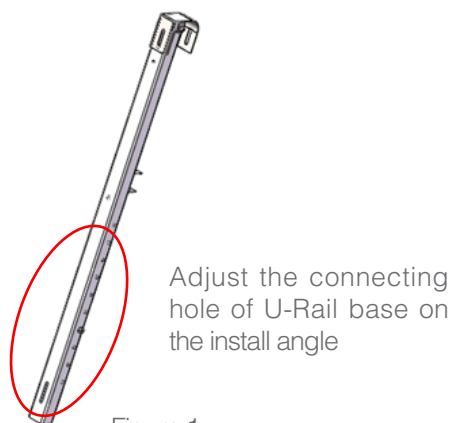

Figure 1
4.1.2 Adjust the connecting hole of U-Rail and C-Rail base on the installation angle. Do not fasten the bolt, keep the U-Rail rotatable as shown in Figure 1